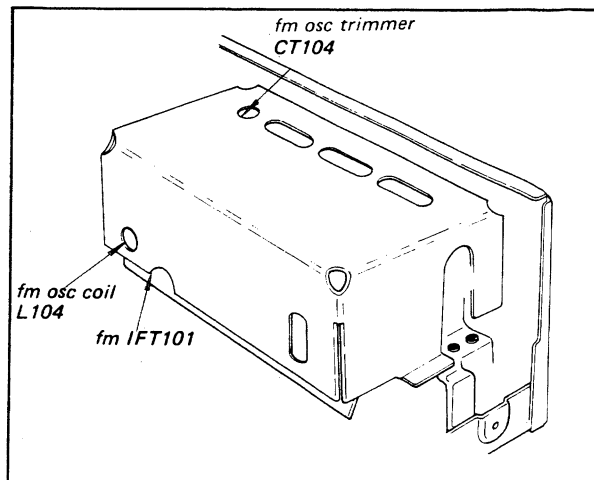

Fig. 3-3. Adjustment parts location
- Turn the core of fm i-f transformer IFT101 (See Fig. 3-3) and the bottom core (primary side) of discriminator transformer T201 (See Fig. 3-10) to obtain maximum output with the alignment tool.
2. Check the dial scale for a calibration accuracy of ± 100 kHz from the carrier frequency of the station. If the dial-accuracy deviation exceeds this limit, adjust the local-oscillator coil L104 (See Fig. 3-3) slightly until optimum dial calibration is obtained.
3. Tune the receiver to the highest-frequency station in your locality. If the dial-calibration error is excessive, adjust local-oscillator trimmer CT104 (See Fig. 3-3) to obtain maximum calibration accuracy